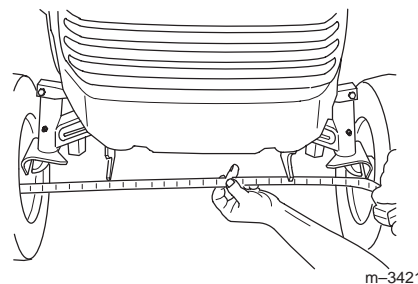

Figure 41
Maintaining correct front wheel toe-in is important for safety, Smart Turn™ Steering operation, and ease of use. If uneven tire wear, lawn scuffing, or hard steering develop, adjustment may be required. Check the toe-in after every 100 operating hours or once a year, whichever occurs first (Fig. 41).
4. Measure the distance between both of the front tires at spindle level (at the front and rear of the wheels) (Fig. 41).